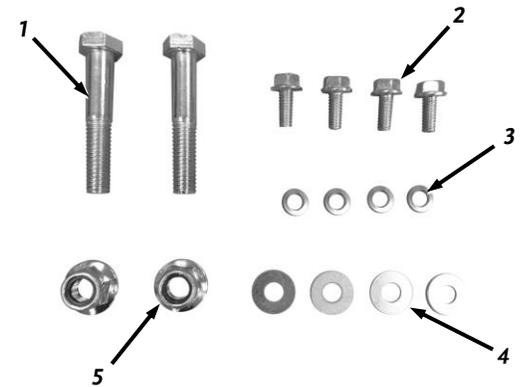

Figure 7
**Power Unit Hardware Set (Figure 7):**
(Use Power Unit Hardware Set, see Figure 7)